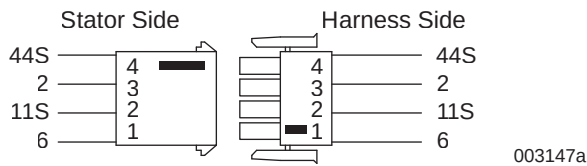

Figure 8-1. Stator Connector (STR) Pin Locations
1. See Figure 8-1. Disconnect the STR connector located in the wire harness and inspect the pins inside both sides of the connector.